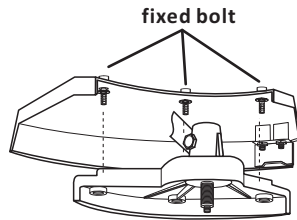

Fig. 4b
- If you intend to use the product as grass trimmer additionally attach the trimming guard (B9). Fix the trimming guard (B9) and with three fixed bolts by using the hex key (E4) (See Fig. 4b). Then proceed as per “Grass trimmer assembly” below.